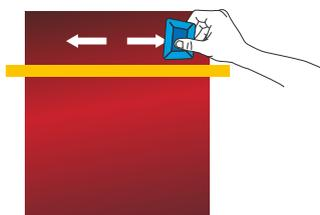

Figure 04
- › Start applying the vinyl with a squeegee (previously covered with felt), by forming a 45-degree angle with the substrate and working from the centre towards the edges. (FIG. 04)